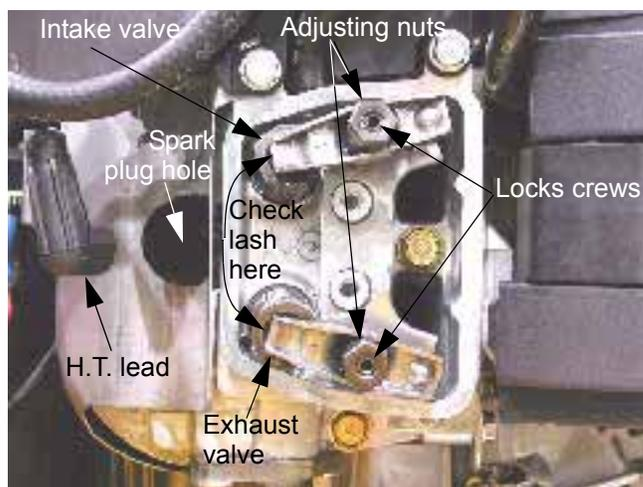

Figure 14.22
14.22. If necessary, adjust the clearance using a 3mm allen wrench to loosen the locks crews, and a 14mm wrench to move the adjusting nut. See Figure 14.22.